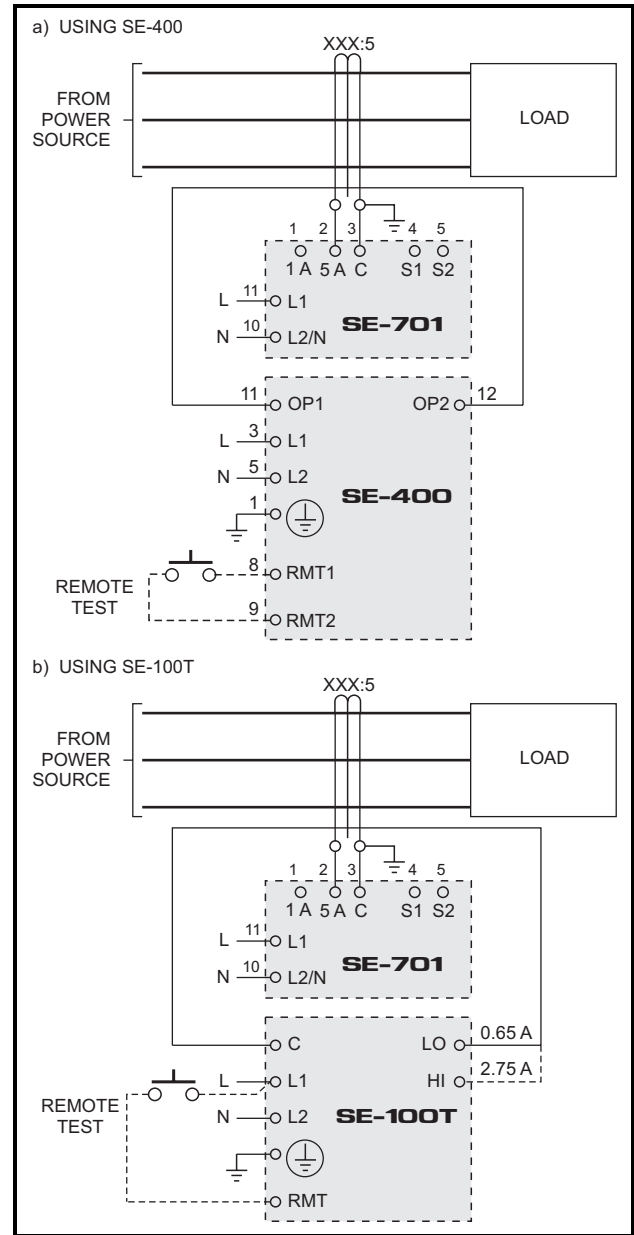

FIGURE 8. Ground-Fault-Test Circuits
- Verify proper reaction of the circuit-interrupting device in response to a simulated or controlled ground-fault current. To simulate ground-fault current, use CT-primary current injection. Fig. 8 (a) shows a test circuit using a Startco SE-400 Ground-Fault-Relay Test Unit. The SE-400 has a programmable output of 0.5 to 9.9 A for a duration of 0.1 to 9.9 seconds. Set the test current to 120% of the SE-701 setting. Fig. 8 (b) shows a test circuit using a Startco SE-100T Ground-Fault-Relay Tester. The SE-100T provides a test current of 0.65 or 2.75 A for testing 0.5- and 2.0-A trip levels. Inject the test current through the current-transformer window for at least 2.5 seconds. Verify that the circuit under test has reacted properly. Correct any problems and re-test until the proper reaction is verified.